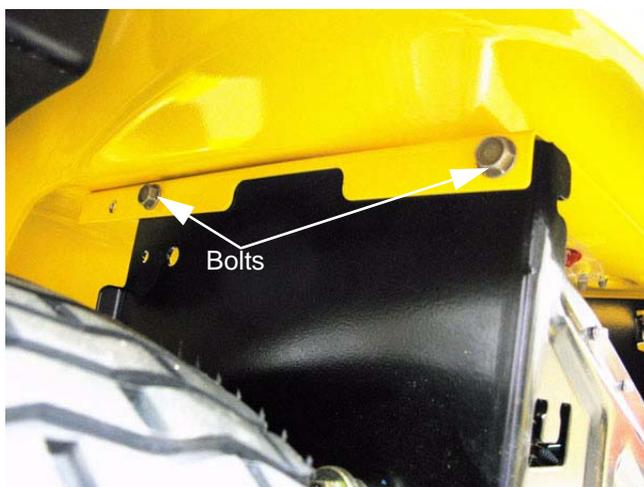

Figure 4.31
- 6c. Remove the four bolts that hold the fender to the seat-box portion of the frame using a 1/2" wrench. See Figure 4.31.